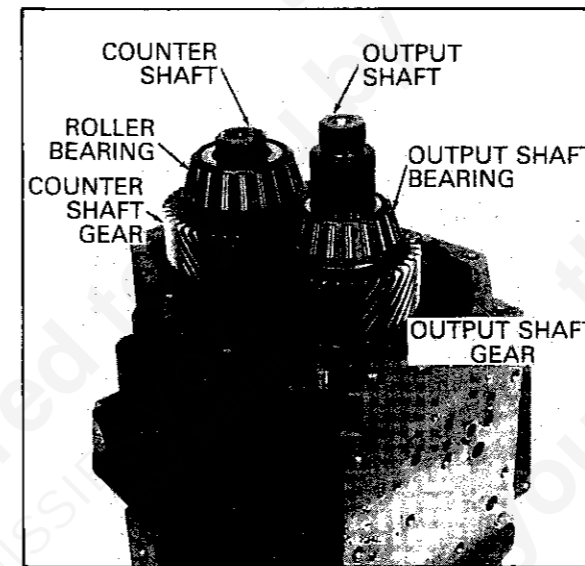

FIG. 38 OUTPUT SHAFT INSTALLATION
40. Position the output shaft front bearing cone in the bearing cup in the case as the output shaft, gear and bearing assembly is installed into the case (Fig. 38).